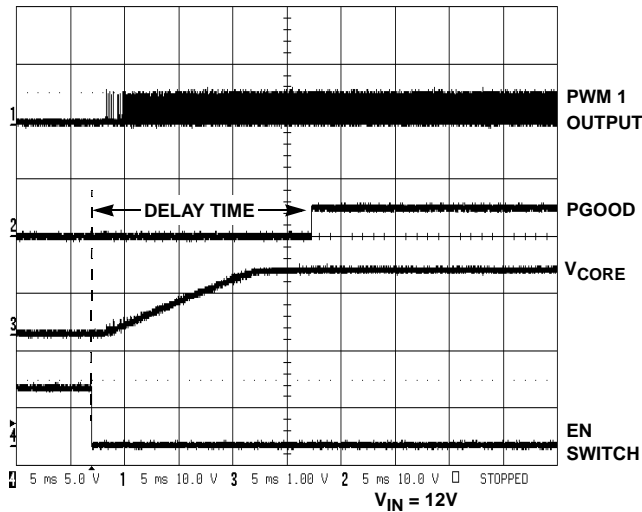

FIGURE 3. START-UP OF A SYSTEM OPERATING AT 200kHz
For the first 64 PWM switching cycles, the DAC output remains inhibited and the PWM outputs remain three stated. From the 65th cycle and for another, approximately 300 cycles the PWM output remains low, clamping the lower output MOSFETs to ground, see Figure 3. The time variability is due to the Error Amplifier, Sawtooth Generator and Comparators moving into their active regions. After this short interval, the PWM outputs are enabled and increment the PWM pulse width from zero duty cycle to operational pulse width, thus allowing the output voltage to slowly reach the CORE voltage. The CORE voltage will reach its programmed value before the 4096 cycles, but the PGOOD output will not be initiated until the 4096th switching cycle.
Figure 3 shows the start-up sequence as initiated by an enable (EN) switch, applied to the ISL6223. The start-up is enabled at the falling edge of the EN switch output.